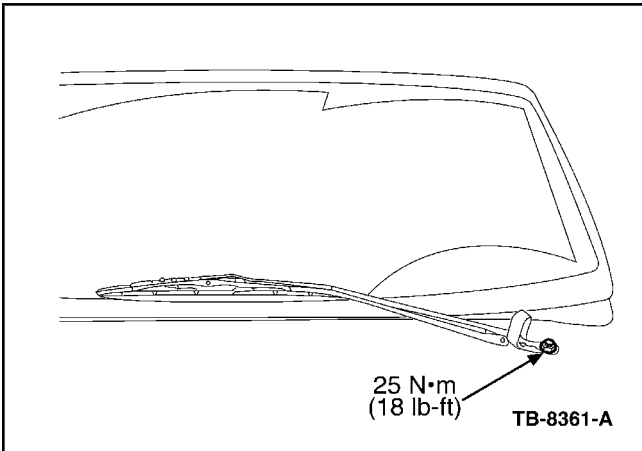

Figure 14 - Article 05-23-7
21. Install wiper pivot arms (Figure 14).